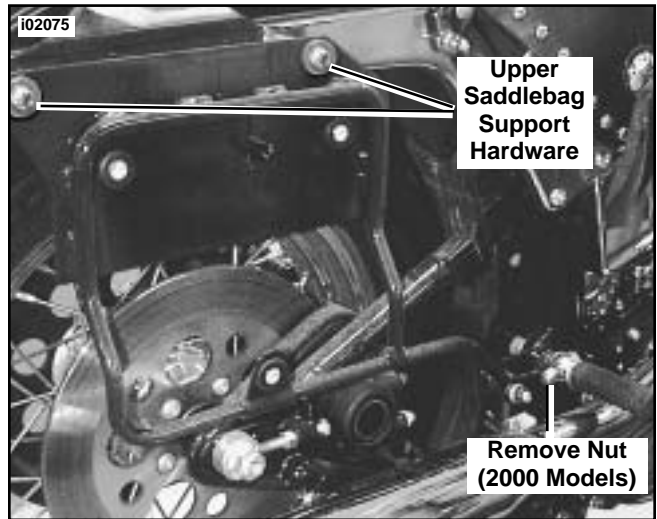

Figure 2. Remove Saddlebag Support from Fender Strut
- See Figure 2. Remove upper saddlebag support hardware from fender strut.